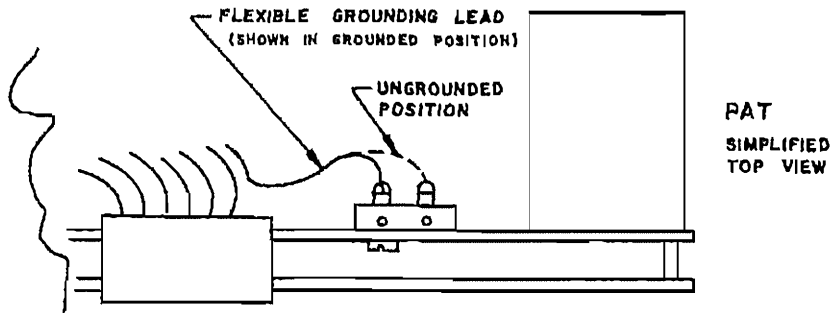

FIG. 2-3 LOCATION OF GROUNDING LUG.
- 2-8 a) **SAFETY GROUND.** For safety reasons it is important that the metal chassis of the PAT power supply be connected to an a-c ground. If a 3-wire line cord and a properly grounded outlet are used, the grounding is automatically accomplished. If only a 2-wire line cord is used, the metal chassis of the power supply must be grounded separately by returning barrier-strip terminal (3) to an a-c ground.
- b) **SYSTEM GROUND.** The d-c output terminals of the PAT power supplies are isolated from the a-c power line and from the chassis, except for a capacitor/resistor series connection from the negative (-) output to chassis. Since no d-c connection exists to the chassis, either side of the power supply may be grounded. A maximum of 500V (d-c or p-p) can be connected between chassis and either output terminal. If the provided internal capacitor/resistor connection from (-) output to chassis is not desired, and the positive side of the PAT is to be grounded, the system ground may be established outside the power supply by removing the provided flexible grounding lead from the grounding lug and transferring it to the "blind" or ungrounded position. (Refer to FIG. 2-3.) The output of the PAT is now completely "floating," and either the positive or negative may be grounded elsewhere in the system or at the load.